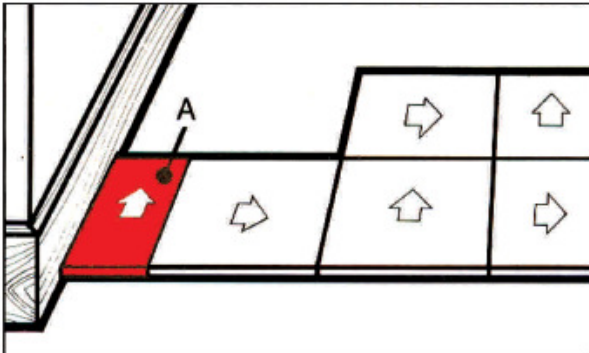

Fig 9
2.12 Using the edge of the tile "B", mark or score a line on tile (A). Cut tile (A) along the mark and install as the border tile. Refer to Fig 9.